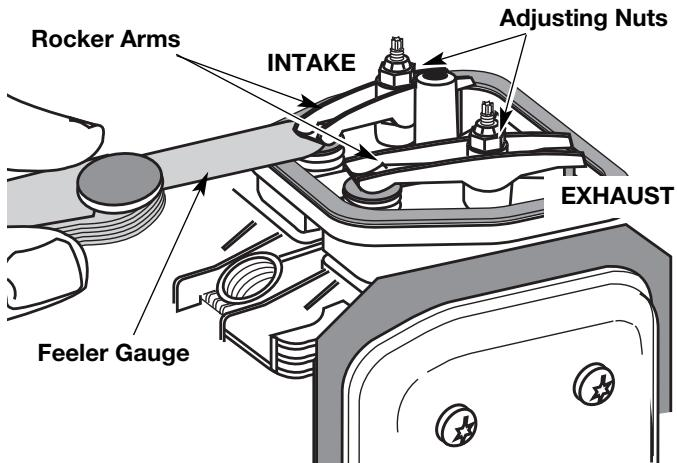

Fig. 37
9. Slide the feeler gauge between the rocker arm and the valve return spring. Measure the clearance between the valve stem and rocker arm (Fig. 37). Measure both the intake and exhaust valves.
Use a standard automotive feeler gauge at .005 (0.127mm). The feeler gauge should slide between the rocker arm and valve stem with a slight amount of resistance, without binding. Figures 37 & 38 show how to measure the clearance.